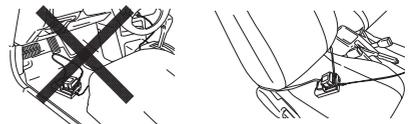

Fig. 18
- Secure the battery charger in place in the car. Use the strap supplied with the battery charger to fasten the battery charger in place and prevent it from moving inadvertently. (See Fig. 18)